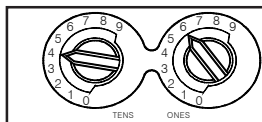

Figure 1: Rotary Decade address Switch
- Set the sensor address (see Figure 1) by using a flat blade screwdriver to turn the two rotary switches, selecting the desired number between 01 and 99. Record the address on the label attached to the base.